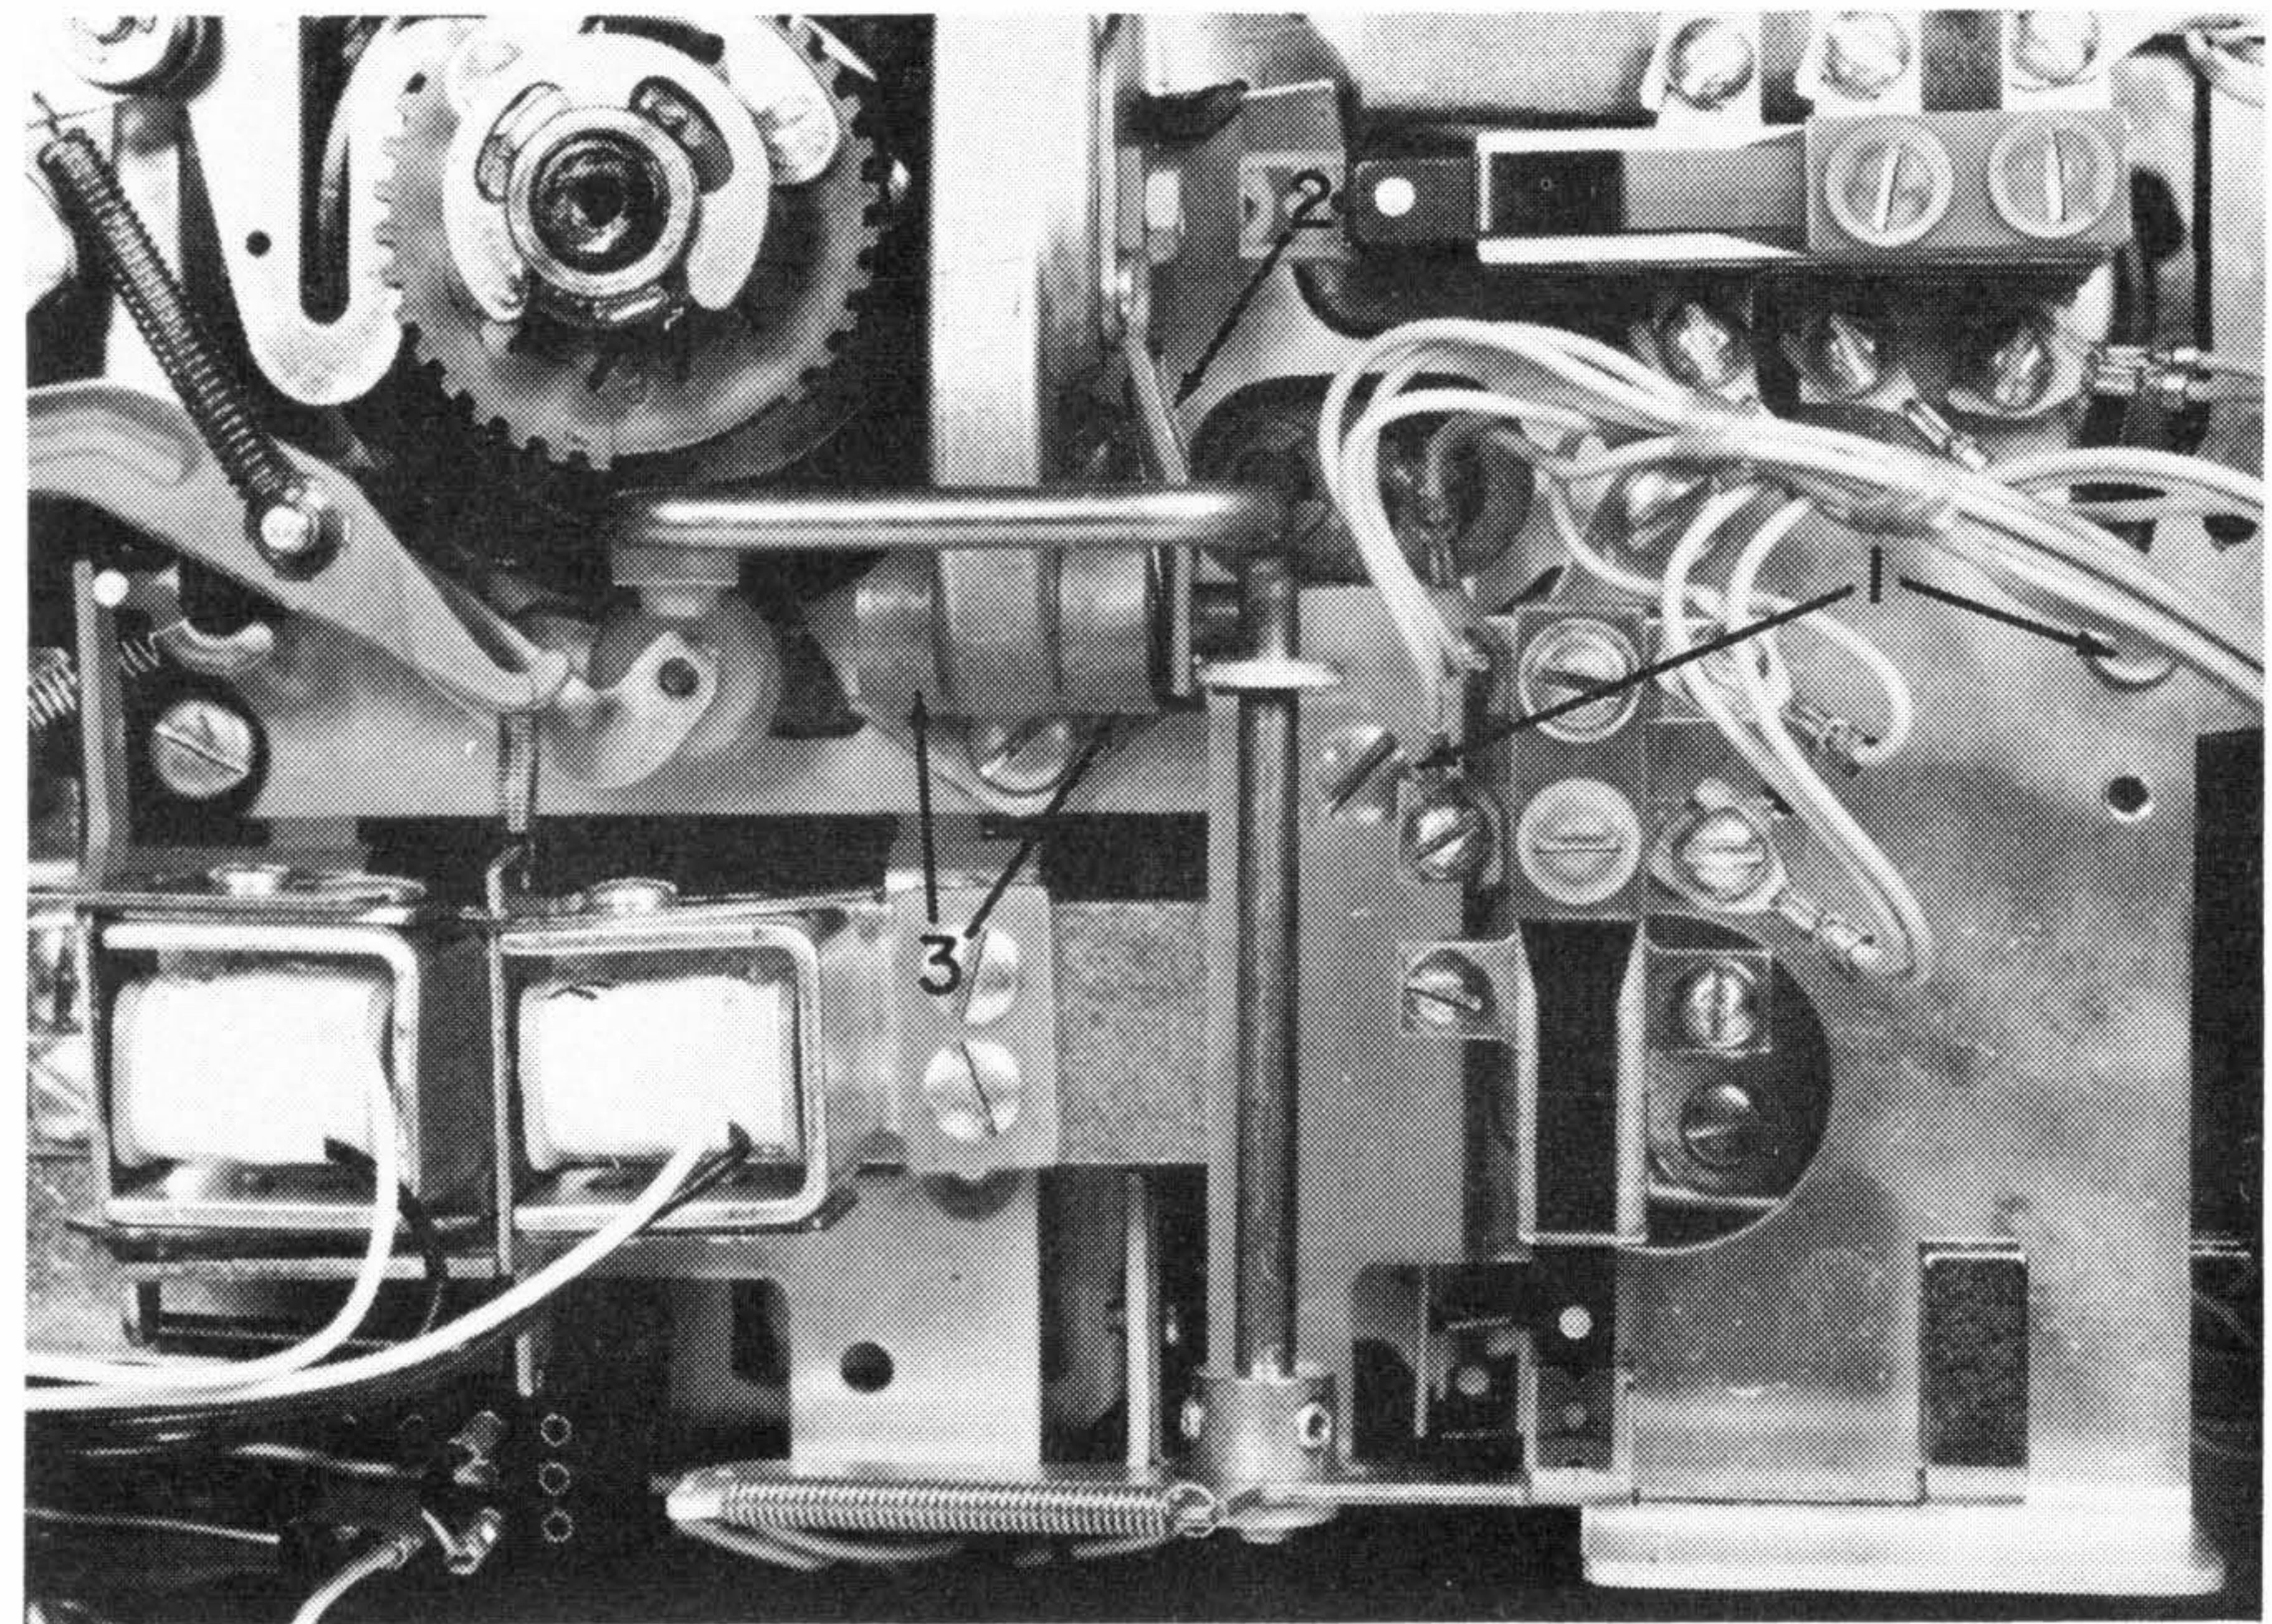

Figure 41. Shift Arm Removal
2. Remove the shift-contact assembly (#1, Figure 41).
3. Remove the shift-arm brace (#2, Figure 41).
4. Loosen the setscrews that hold the shift-arm pivot (#3, Figure 41).